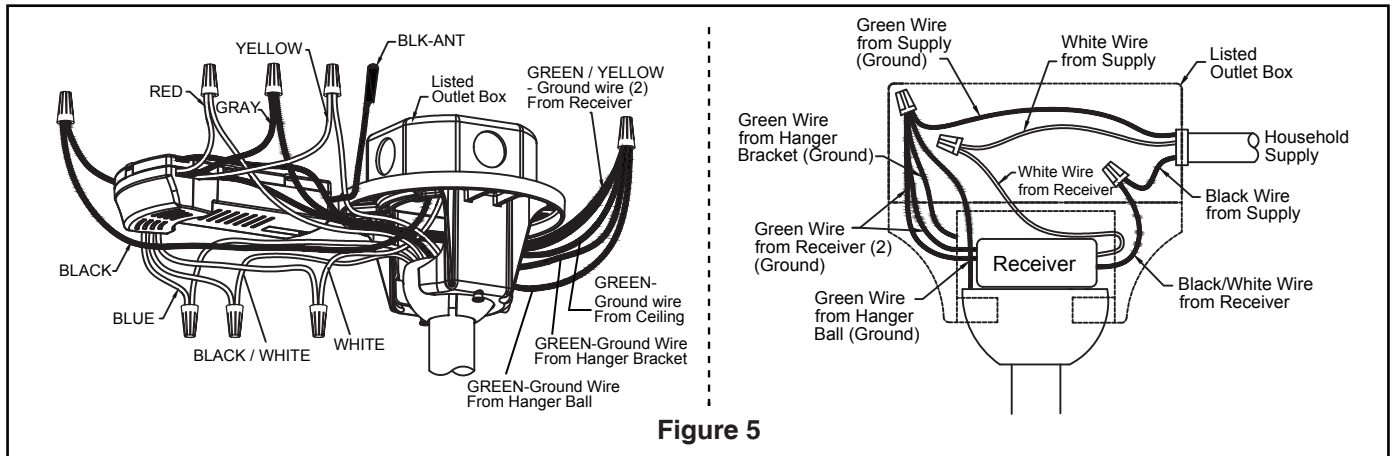

Figure 5
4. After connections have been made, put the white and green leads to one side and the black/white leads towards the other side, upward and carefully push leads into the outlet box. The wires should be spread apart with the grounded conductor and the equipment-grounding conductor on one side of the outlet box and the ungrounded conductor on the other side. (Figure 5)